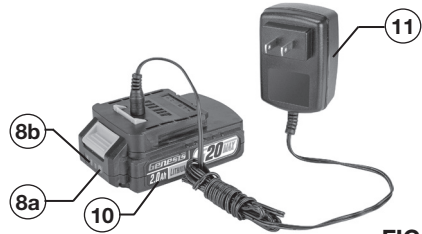

FIG 3
CHARGING THE BATTERY (FIG 3)
- Plug the charger (11) into a 120 Volt AC power source. The green indicator light on the charger will illuminate, confirming it is powered.
- Connect the charger to the battery (10) as shown in FIG 3. The red light on the charger will illuminate, indicating that the battery is charging. Meanwhile, the power indicator lights (8) on the battery pack will flash, indicating the charging status.
BATTERY POWER INDICATOR (FIG 3)